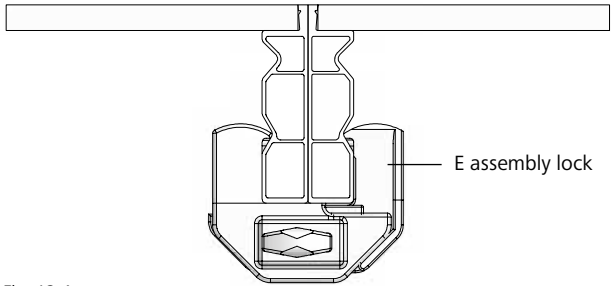

Fig. 12.4
- With double groove using the E assembly lock (Fig. 12.4). If possible, we recommend the use of the EA assembly lock.